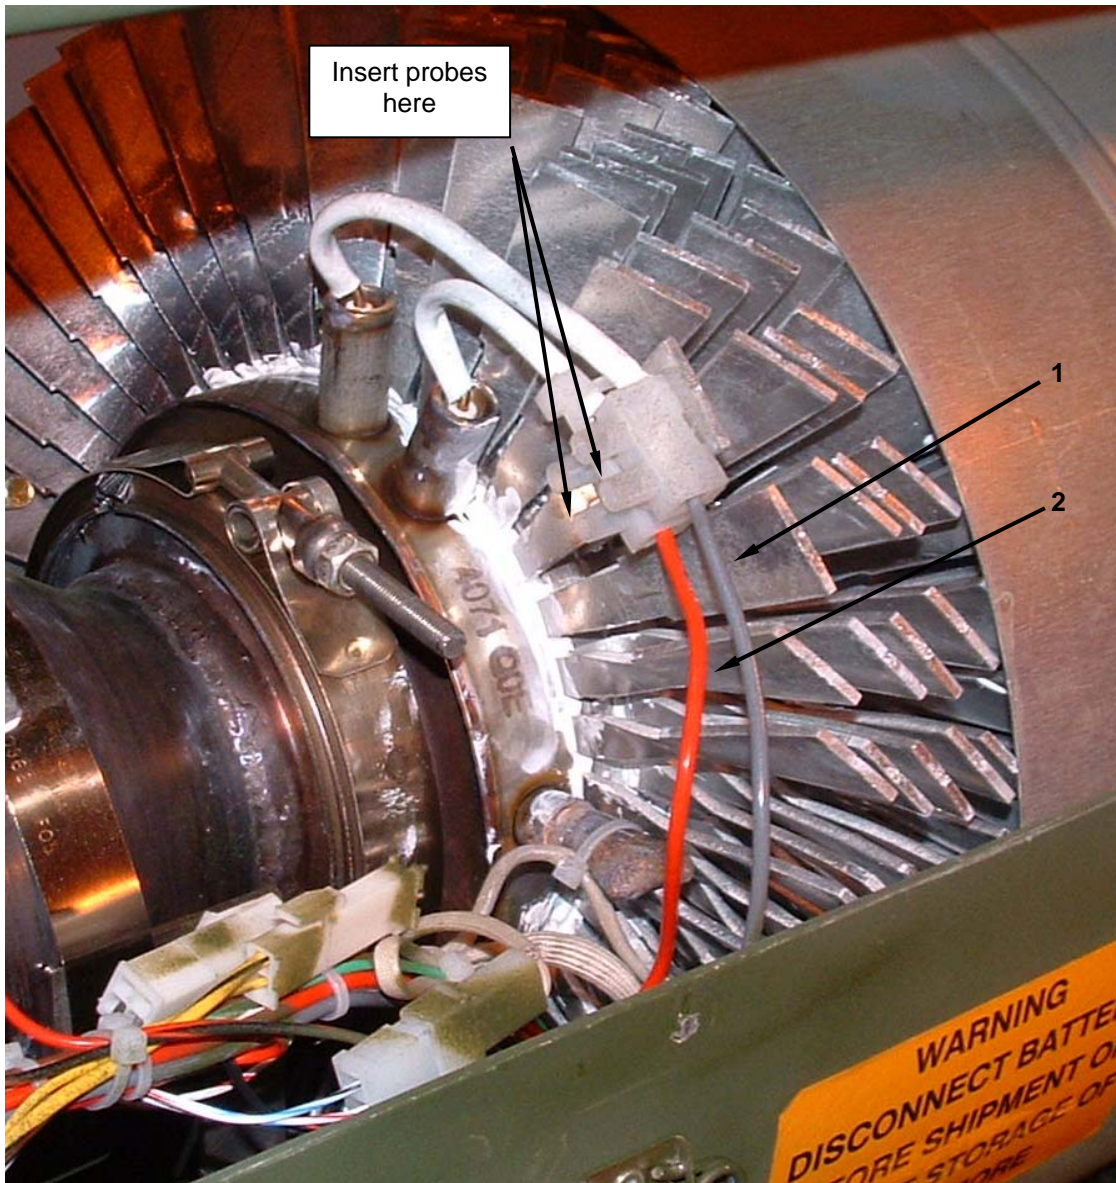

Figure 4. Test Thermoelectric Generator (TEG).
2. Place probe No. 1 in contact with TEG's grey wire (**Figure 4, Item 1**) and probe No.2 in contact with the TEG's red wire (**Figure 4, Item 2**). The meter should read between 1 and 5 Ohms. It should not read 0 (zero) Ohms (shorted) or infinite Ohms (open).